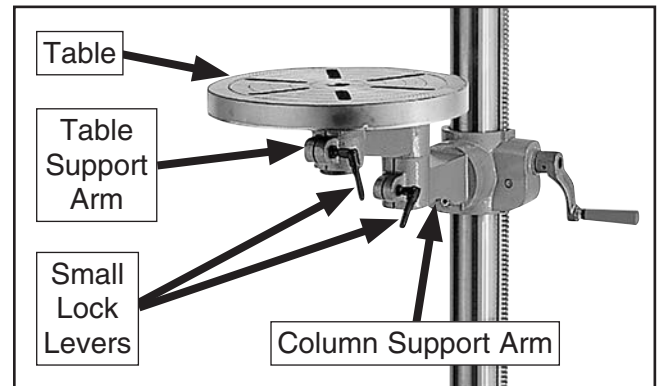

Figure 17. Model G7946 table assembly.
11. (**G7946 Only**): Install the table support arm onto the column support arm, then install the table (see **Figure 17**).
12. Thread a small lock lever into the non-threaded side on the table support arm and column support arm about three turns for now (see **Figure 17**).